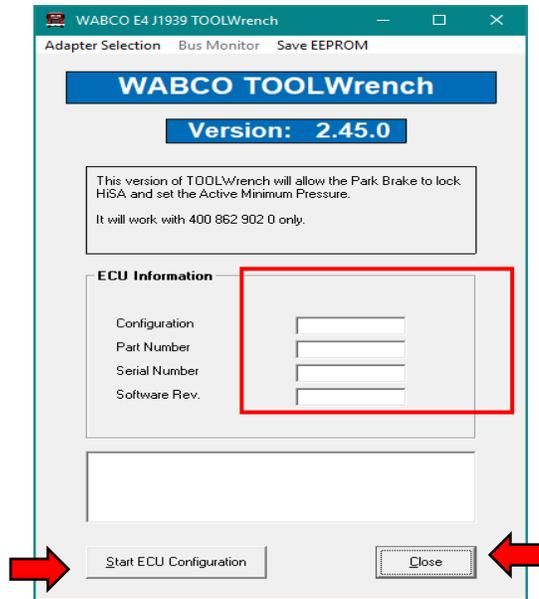

Fig. 8, Toolwrench Start ECU Configuration
IMPORTANT: Confirm that the ECU Information Fields populate (red box), and that the part number shown is 400 862 902 0. This ToolWrench only works for this part number. See Fig 8.
13. Select Start Configuration. Fig. 8.